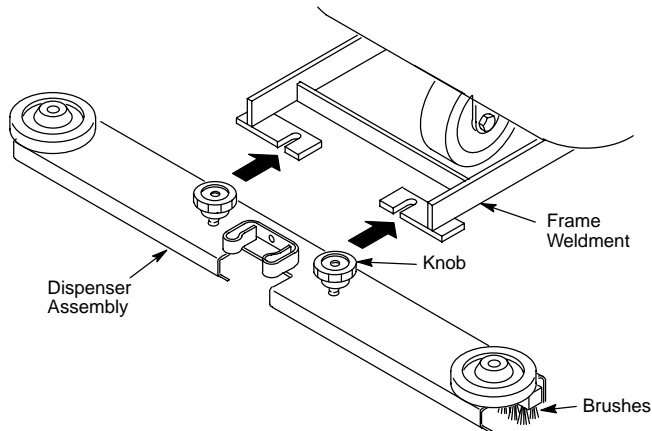

FIG. 5.
- Loosen (2) knobs and attach dispenser assembly to frame weldment, tighten down knobs. Brush side should face towards machine (*Figure 5.*).